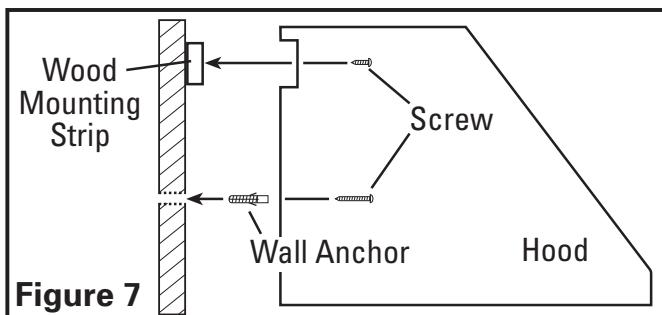

Figure 7
3. Rest the cavity on the back side of the hood on the wood strip and mark drilling locations on the wall for wall anchors on the bottom rear of the hood. Remove hood and install wall anchors (Figure 7).
4. Rest the cavity on the back side of the hood on the wood strip and secure hood to wood strip with the included 3/4" screws through the holes in the back of the hood that line up with the wood strip (use 6 screws for 30" and 36" widths and 8 screws for larger widths) Secure the bottom of the hood by installing the screws provided into the wall anchors. (Figure 7).